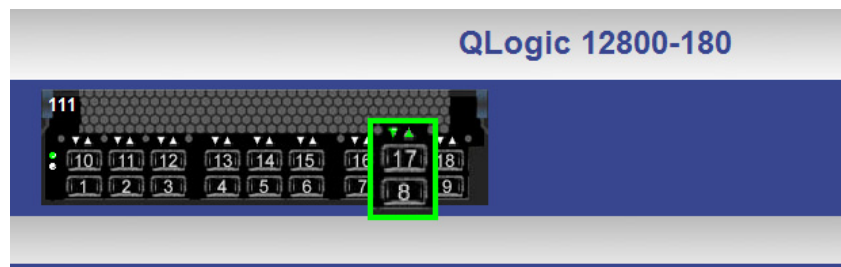

Figure 1-53. 8X Ports Enabled
5. After reinserting the cables, bring up Chassis Viewer. The 8X ports are displayed as shown in Figure 1-53 where both ports of the DUO have LEDs on.